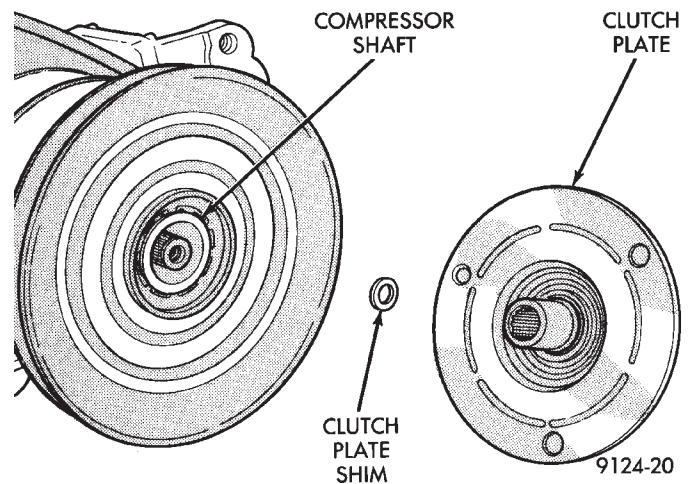

Fig. 7 Clutch Plate and Shim
- (3) Tap the clutch plate with a plastic mallet to release it from the splines on the compressor shaft. Remove clutch plate and shim(s) from the compressor shaft (Fig. 7).